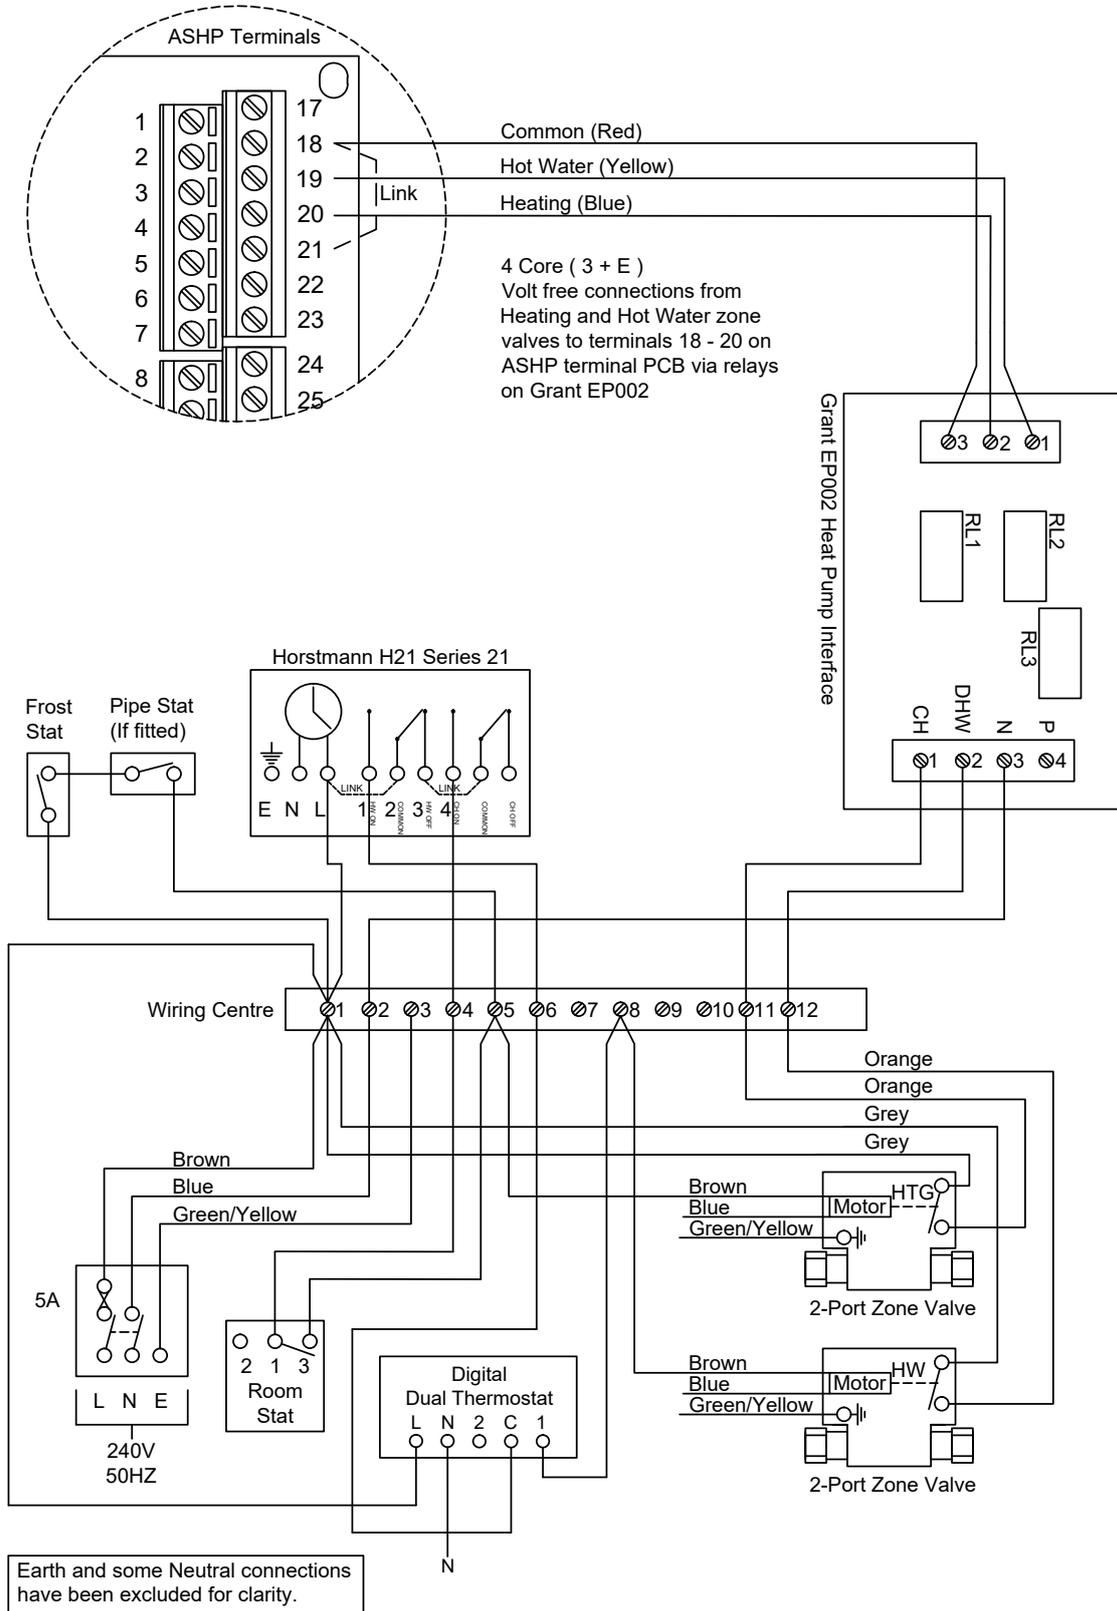

Figure 5-3: S-plan system connection diagram (HW priority provided by programmer)
For details on the correct wiring connections, refer to either Figure 5-3 or 5-4 (as appropriate).
**The Digital Dual Thermostat supplied with all Grant MonoWave cylinders requires a permanent live connection. Refer to Figure 5-3 or 5-4 (as appropriate) for wiring details.**
This valve should be wired in accordance with either Figure 5-3 or 5-4 (as appropriate) for a Grant Aerona3 heat pump, to comply with current legislation.